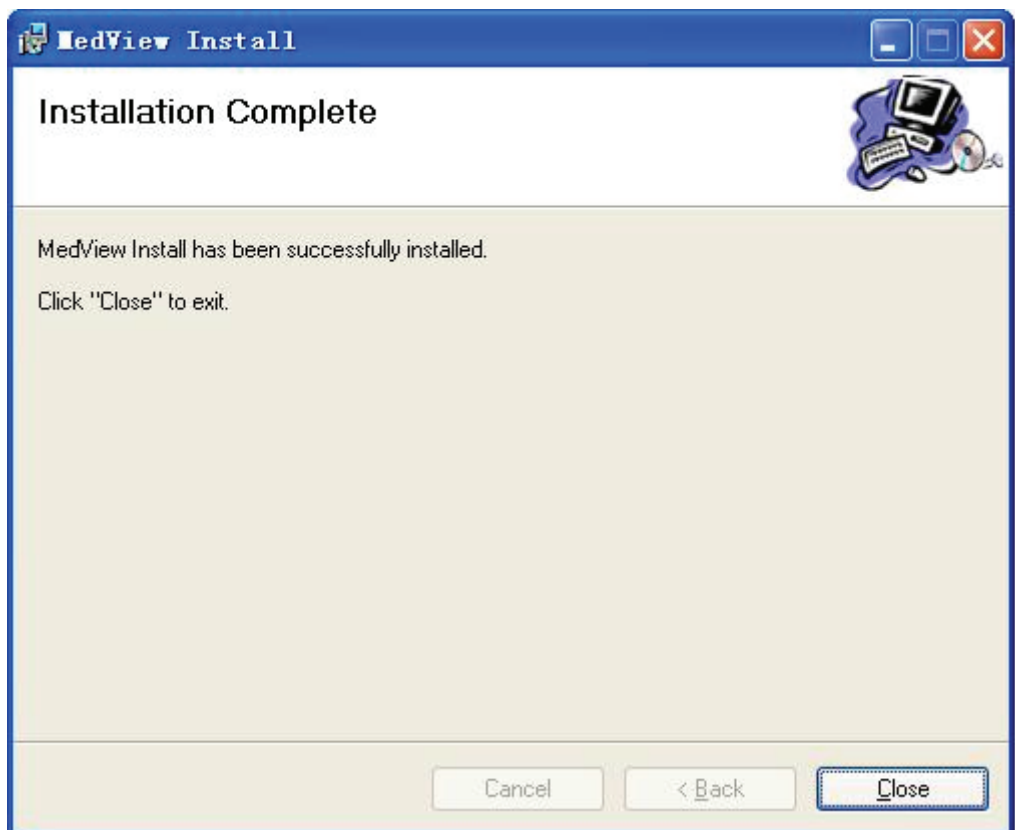

Figure 2-6
(6) Click "Close" button in Figure 2-6, the shortcut icon will be created on the desktop, as shown in Figure 2-7. The shortcut and Uninstall MedView icons are added into "Start" menu on the left bottom of desktop, as shown in Figure 2-8.